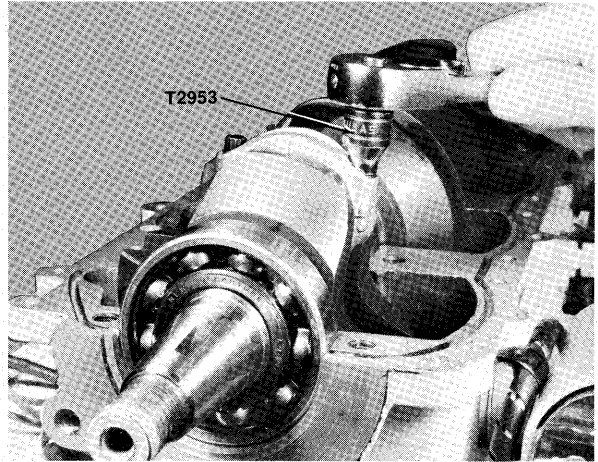

Figure 7—Removing Rod Cap Screws
- H. Remove connecting rod cap screws using 12 point socket (Special Tool T2953) as shown in figure 7.